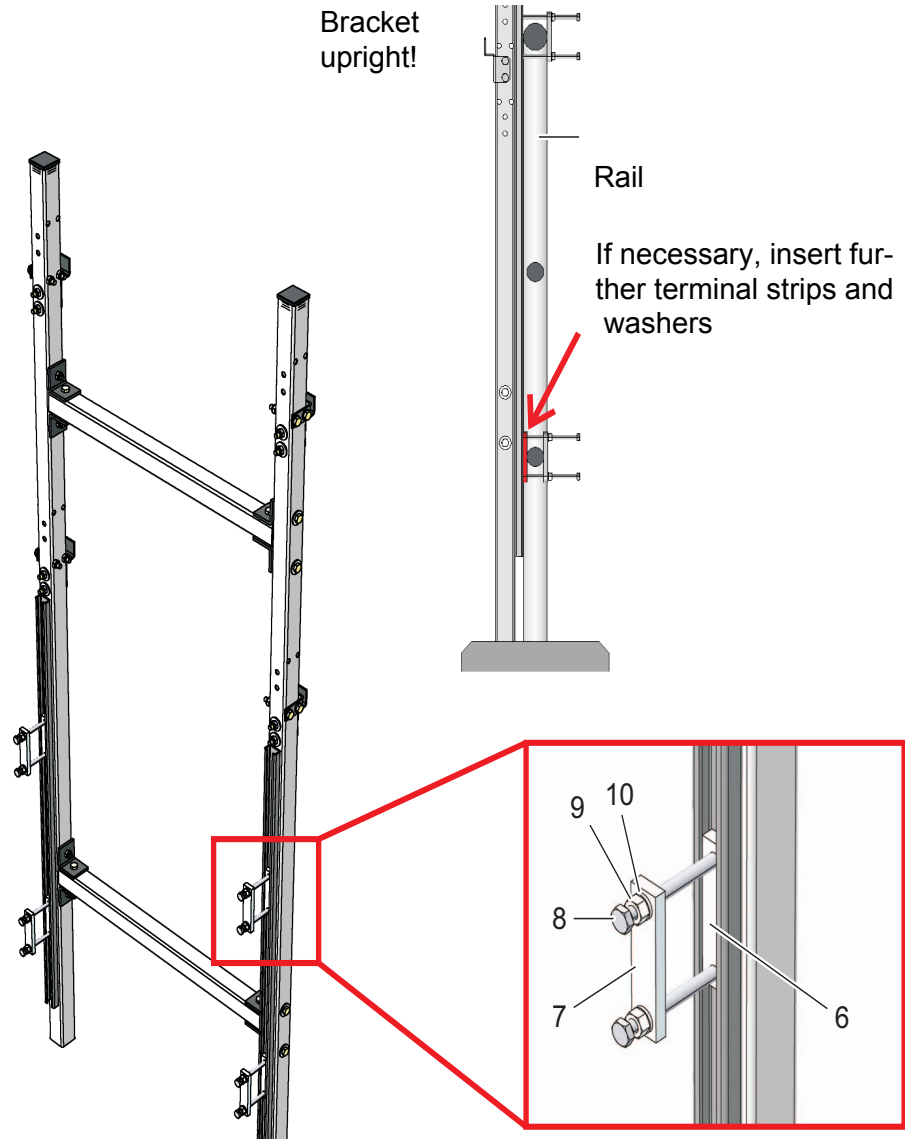

Fig. 3-9: Mounting the rail mount bracket on the rail
- 5 Attach the rail mount bracket to two suitable horizontal rail pipes with the aid of the four clamping devices. Each clamping device consists of a groove bar (6), a terminal strip (7), two long hexagon head screws (8), two nuts (9) and two spring washers (10). Adjust the clamping devices to the rail pipes. To compensate for any possible differences of the upper and lower rail pipe diameters, 2 further terminal strips and 8 washers (thickness 2 mm) are provided with the construction set. If necessary, insert these items between the rail and supporting pipes as shown in Fig. 3-9, 32 so that the rail mount bracket is in a vertical position. Note that both supporting pipes must stand on the ground!